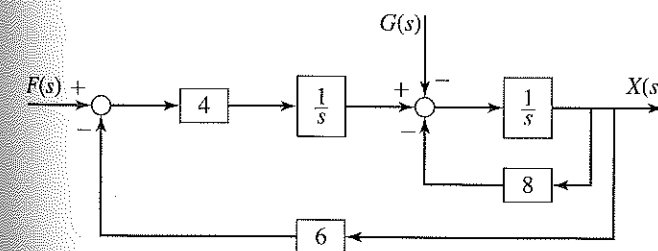

Figure P5.3
- 5.3 Obtain the transfer function $X(s)/F(s)$ from the block diagram shown in Figure P5.3.
- 5.8 Use the MATLAB `series` and `feedback` functions to obtain the transfer functions $X(s)/F(s)$ and $X(s)/G(s)$ for the block diagram shown in Figure P5.3.